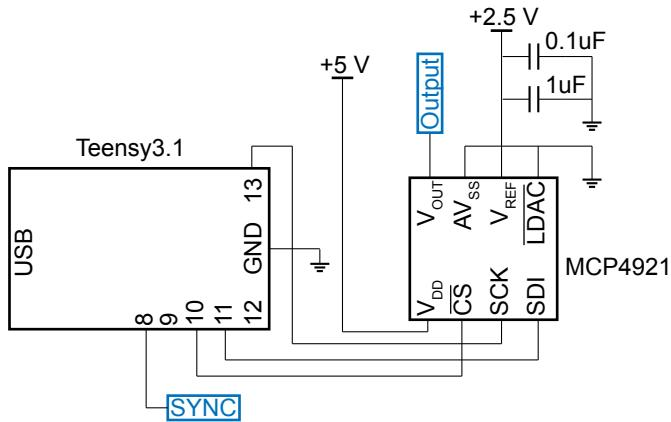

Figure 10: Schematic of the connection between Arduino UNO and the MCP4921.
1. Using Fig. 10 as a reference, connect the Teensy to the MCP4921 DAC. Connect the MCP4921's VDD pin to the output of the LM317 regulator (5 V). Connect the MCP4921's VREF pin to the LT1009 reference's output (2.5 V). Connect both AVSS and LDAC of the MCP4921 to ground. A 0.1  $\mu$ F and a 1  $\mu$ F capacitor could be used at VREF to minimize noise at the reference. It is very important to keep your circuit (ICs, resistors, capacitors, wires, etc) organized. Use as short of a wire as possible between two connection points. Refer to Fig. ?? for an example layout.